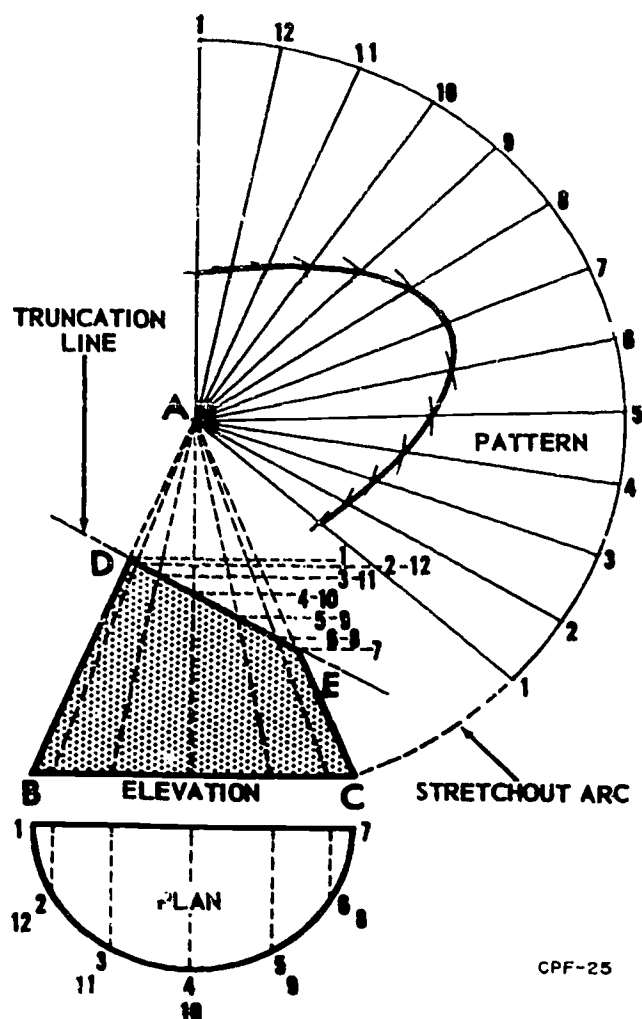

Figure 1-80. Irregular frustum pattern development.
If an irregular frustum of a cone such as that shown in figure 1-80 is to be developed, the truncation line DE is drawn in the elevation view. This line represents the top edge of the object. Divide the circumference of the half-plan view into equal sections as previously done in parallel line development; in this case, it will be from 1 to 12 to 1. From each of these points, erect a perpendicular line to the base of the frustum. Then, from each point of intersection with the base, draw radial lines to the vertex. From each point where the radial lines intersect the truncation line on
To construct the pattern, draw the stretchout arc with a radius equal to the distance from A to C, as shown in figure 1-80. Now, divide the stretchout into 12 equal spaces and number to correspond with those in the half-plan view. From the points of intersection with the stretchout arc, draw element lines to vertex A. It is necessary to construct these lines because they are essential in developing the pattern. Next, with a compass and using the vertex as a center, measure the distance between points A and 1 along line AC. Transfer this measurement to the stretchout arc; again using the vertex as center, swing an arc to intersect the corresponding element line (1) in the stretchout arc. Repeat the procedure for each of the numbered horizontal lines in the elevation view. Then, with an irregular (French) curve, connect these points. This curved line determines the top edge of the pattern, and the stretchout arc determines the lower edge.